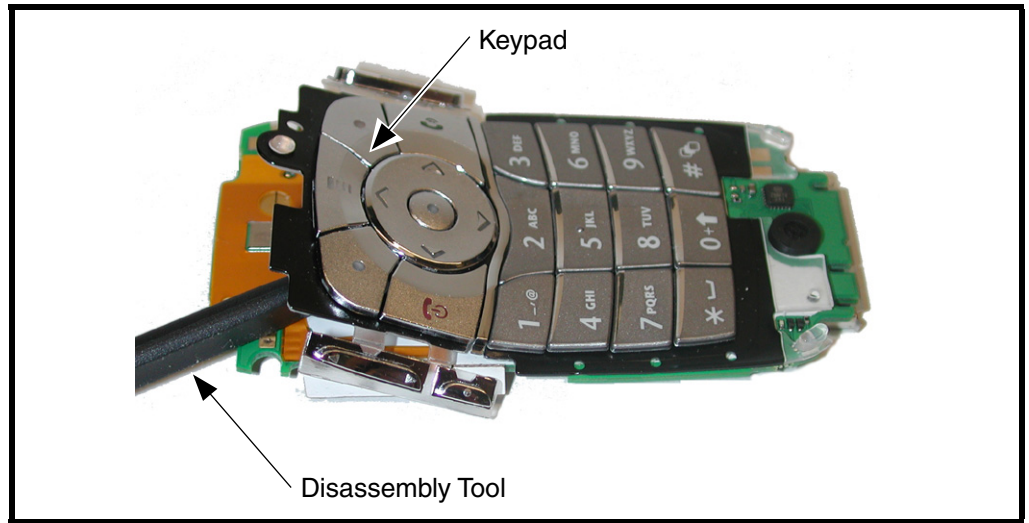

Figure 10. Removing the Keypad, volume/smart, and voice buttons
2. Using the disassembly tool, lift the top part of the keypad assembly, which includes the volume/smart buttons, and voice button away from the transceiver board assembly (see Figure 10). The bottom part the keypad assembly is secured by adhesive material. Remove the remainder of the keypad assembly from the transceiver board with caution.